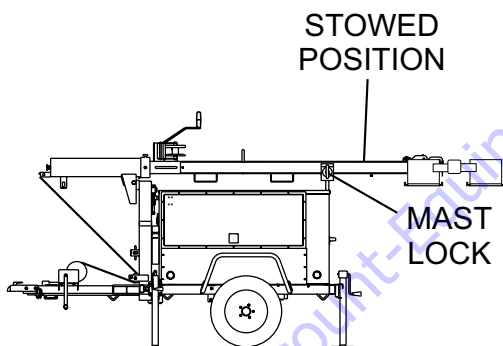

Figure 4. Light Tower in Stowed Position
2. If the light tower is in the deployed position, place the tower mast into the cradle support (stowed position). See Figure 4. Make sure cradle lock/release pin has been inserted and the mast is locked.